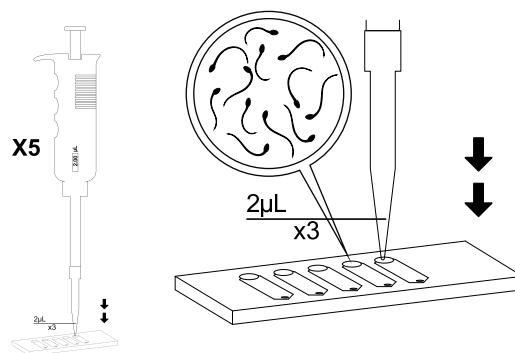

Figure 5. Slowly aspirate 2µL from each outlet port under the oil.
8. Use a micropipette to carefully remove 2µL of the sorted sperm-containing solution from each of the outlet ports (Figure 5).